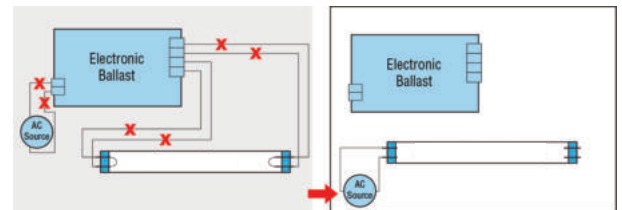

Figure 3. Retrofit with One Lamp
8. Make sure all sockets are replaced and wired according to the appropriate wiring diagram. (Figure 3, 4, 5, 6).